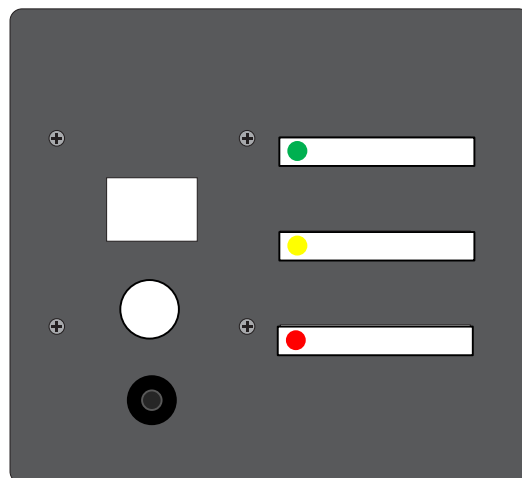

Figure 3-1. Battery Charger Faceplate
- Plug the extension cord into outlet. Verify that the green **CHARGING** indicator LED is lit on the battery charger faceplate. Refer to Figure 3-1.